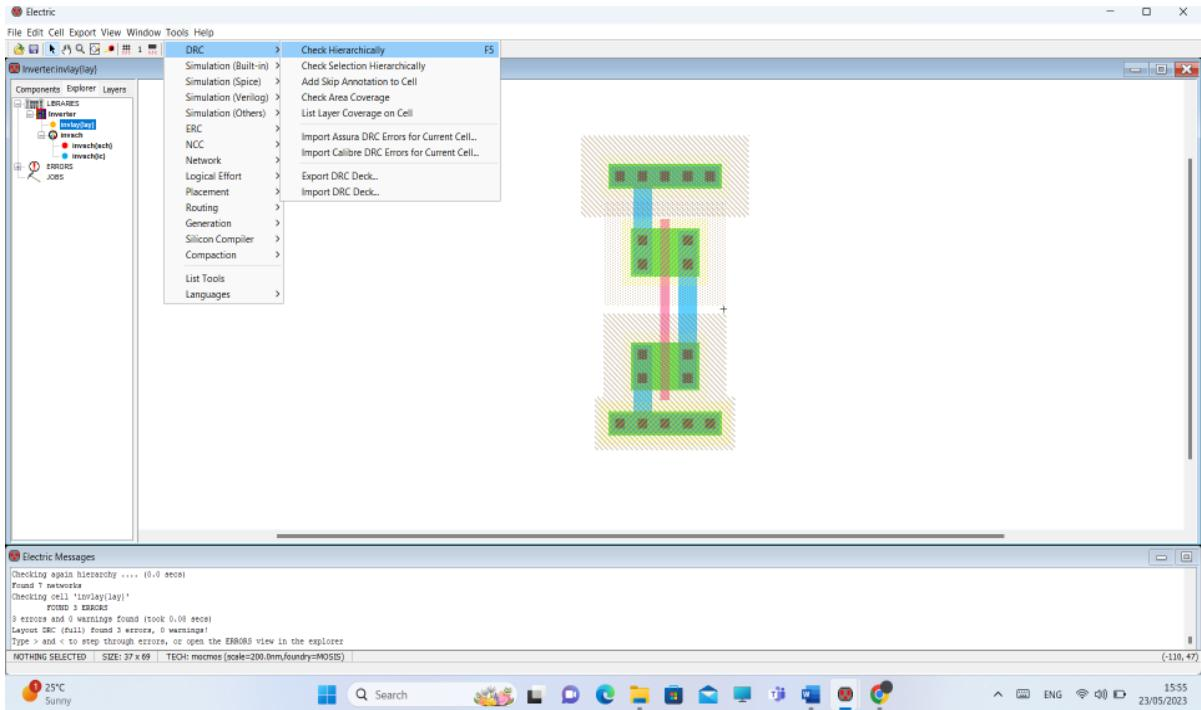

Figure 1.41: Checking your design.
8. check for error >> Tools>>DRC>>Check Hierarchically, if there are errors press Shift + < or Shift + >. (see Figure 1.41 and 1.42).